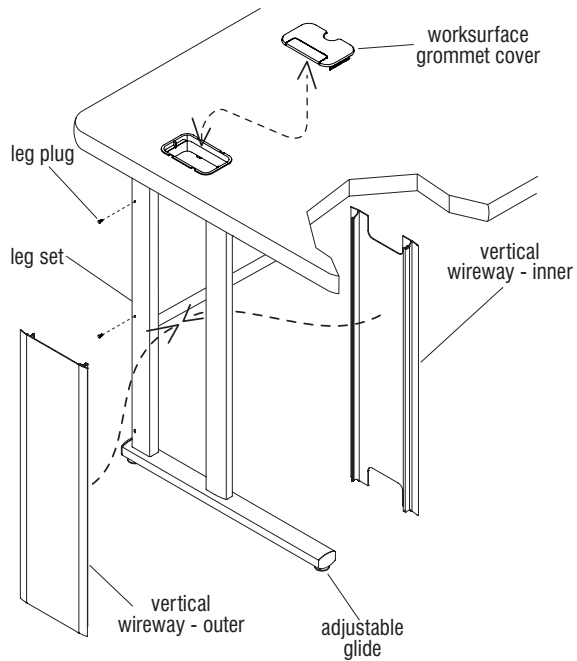

Figure 6 - Vertical Wireways
17. Install a vertical wireway into each leg set by first positioning the outer wireway section as illustrated. The extended face of the wireway must be oriented up so as to cover the table-support member of the leg set when installed. Incorrectly installed, it will cover the foot member. Flex the outer wireway slightly and press it into place between the leg uprights. Next position the inner wireway cover as illustrated and press it into place in the vertical wireway (Figure 6).
18. Press worksurface grommets into wireway holes in worksurface top, and install two leg plugs into the two exposed holes at the outside of each leg set as illustrated (Figure 6).